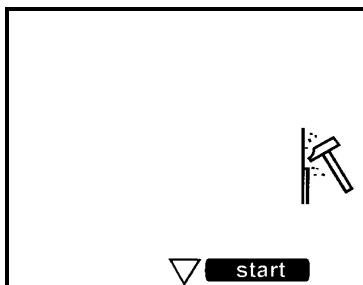

Fig. 6
1. Open the door (10) and flip the cover (9) up.
2. Remove the ingredient container (2) and the drip-tray (15).
3. Press the programming key (3).
4. Select the descaling program with selection key  (12). Figure 6 appears in the display.
6. Pull out the drain hose (5).
7. Place the drain hose (5) over the edge of a bucket that can hold at least 7 litres.
8. **CARE!** Water that is leaving the hose may be hot! Remove the drain plug of the drain hose (5) to allow the water out into the drain or the bucket.
12. Remove the plug from the descaling inlet (8).
13. Use a funnel to pour the descaling solution into the descaling inlet (8) and close the inlet again with the plug.